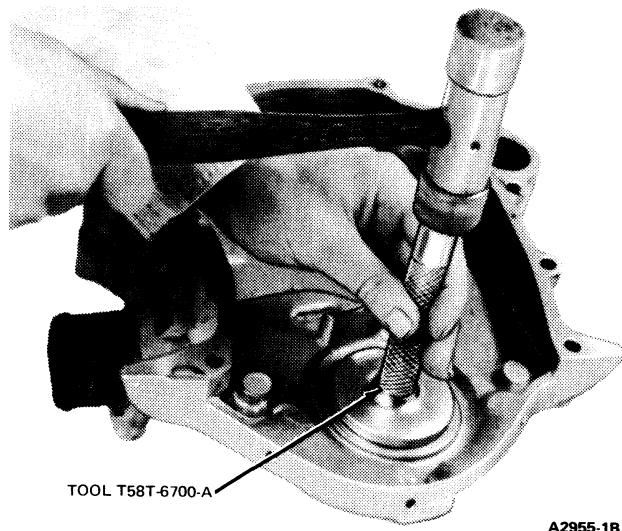

FIG. 25 Installing Front Oil Seal
1. Coat a new seal with grease. Install the seal with Tool T68T-6700-A or equivalent (Fig. 25). **After installation, be sure seal spring remains in proper position.**